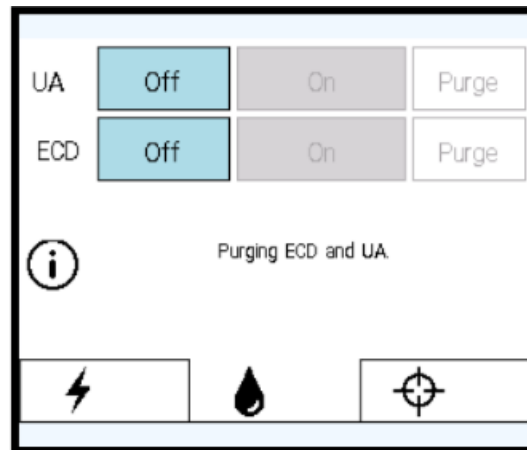
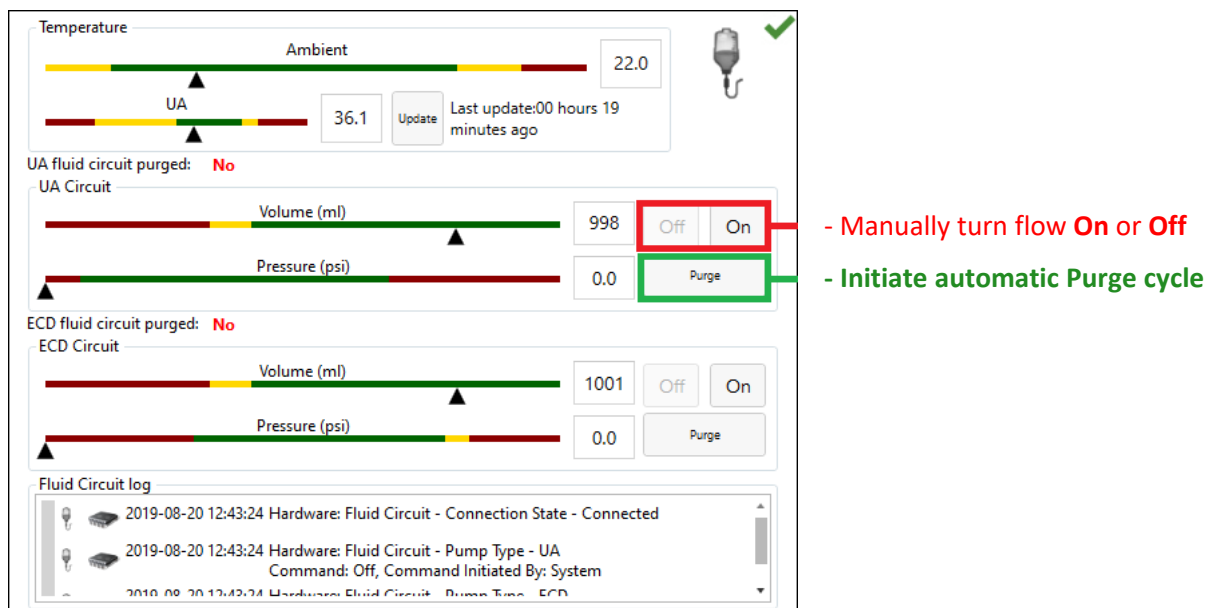

Figure 9: PSIB Display - Fluid Circuit tab
Figure 10: Fluid Circuit information box in TDC Setup workspace
- On the PSIB display, choose the **Fluid Circuit** tab  (Figure 9) and **Purge** the UA and ECD fluid circuits. You can also do this from the TDC by pressing **PURGE** beside the fluid circuit (FC) quadrant (Figure 10).
- If the purging cycle ends before completing the steps in this process, return to the PSIB display (or TDC window) and manually turn the flow on by clicking **On**. The fluid pumps will remain on until you click **Off** (*Figure 10*).